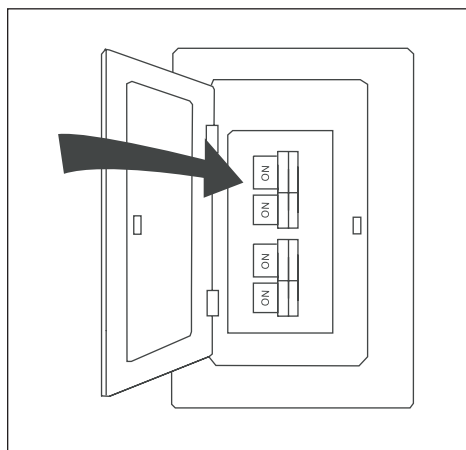

Figure 5.12
12. Turn on power to fan at breaker box and the wall switch. Assembly is complete (Figure 5.12).